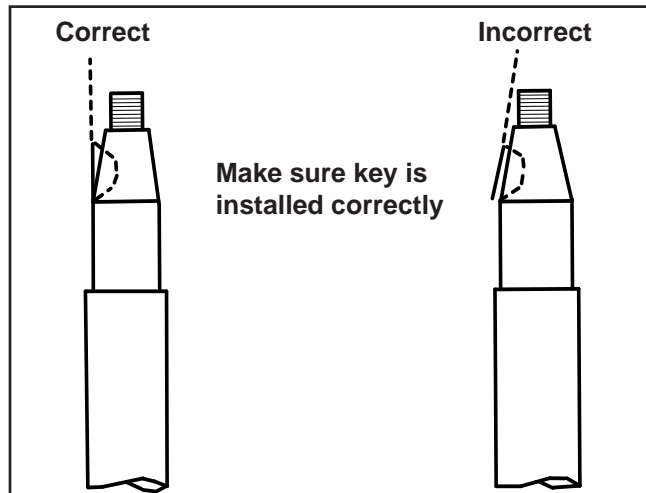

Figure 30
2. Install the flywheel key into the slot on crankshaft taper (Figure 30).